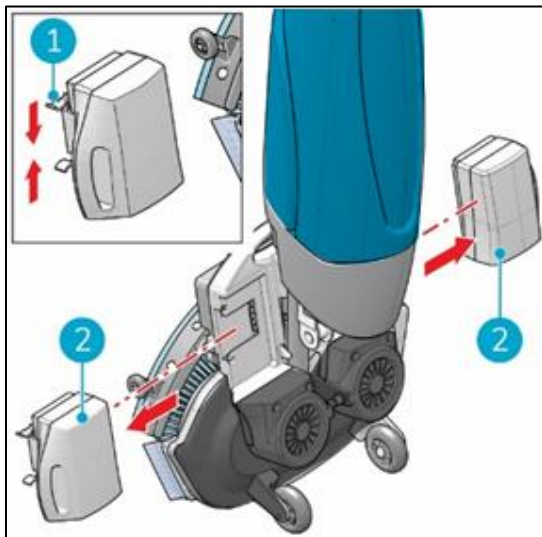

Figure 32
3. Press the retaining clip inwards (Figure 32, pos 1) Battery will lift from its anchor, pull the battery away (Figure 32 ,pos 2).